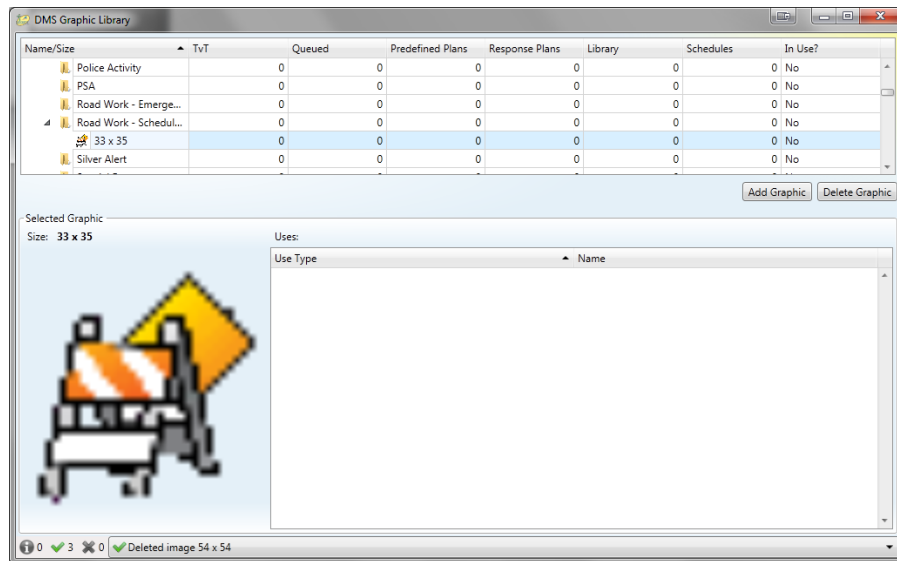

Figure 3-92– DMS Graphic Library – Selected Graphic
- **Status of Graphic:** Clicking the arrows expands and collapses the tree view. Clicking on a graphic will display an enlarged view of the graphic as well as its dimensions and details about where it is being used. See Figure 3-92.